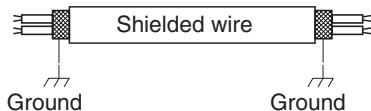

Fig. 4-6
- (5) Use shielded wires for inter-unit control wiring (C) and ground the shield on both sides, otherwise misoperation from noise may occur. (Fig. 4-6) Connect wiring as shown in Section "4-3. Wiring System Diagrams".